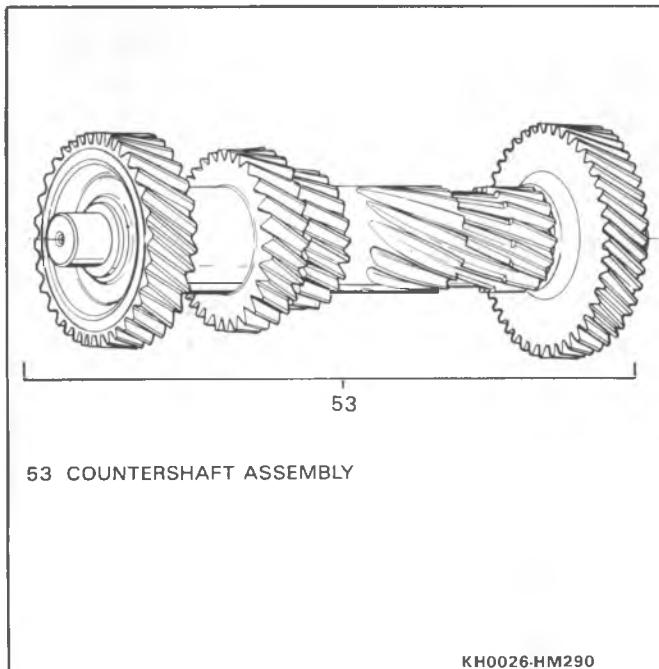

Figure 34 Countershaft
**Inspect (Figure 34)**
1. Shaft (53), for cracks, replace if these conditions exist.
2. Gear teeth (53) for scuffed, nicked, burred, broken teeth or high spots (a small shiny spot on the gear teeth mating surface) that could cause gear noise.